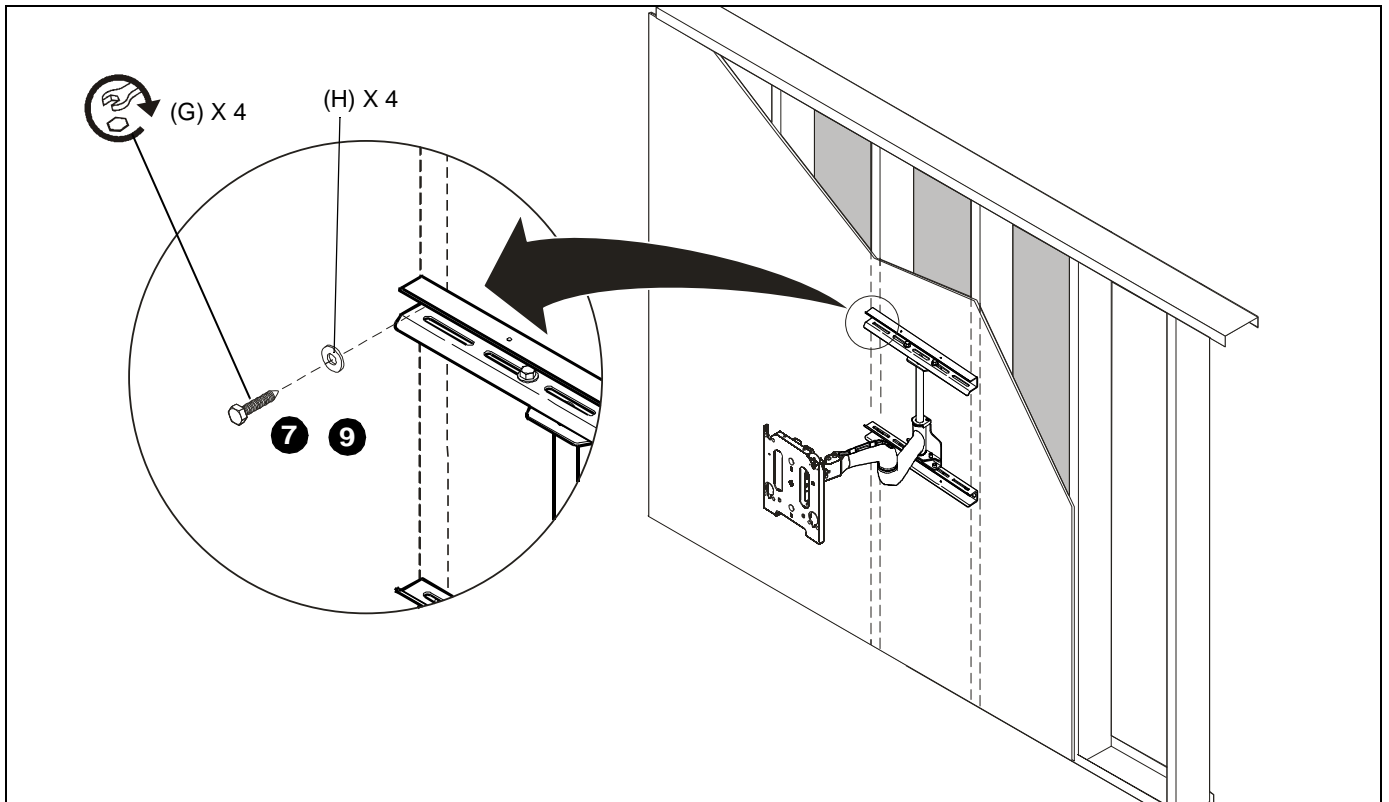

Figure 3
7. Install two 5/16" x 2-1/2" lag bolts (G) and two .135" thick washers (H), through upper wall channel and into pilot holes. DO NOT tighten at this time. (See Figure 3)
9. Install two 5/16" x 2-1/2" lag bolts (G) and two .135" thick washers (H), through mounting holes in lower wall channel and into pilot holes. (See Figure 3)